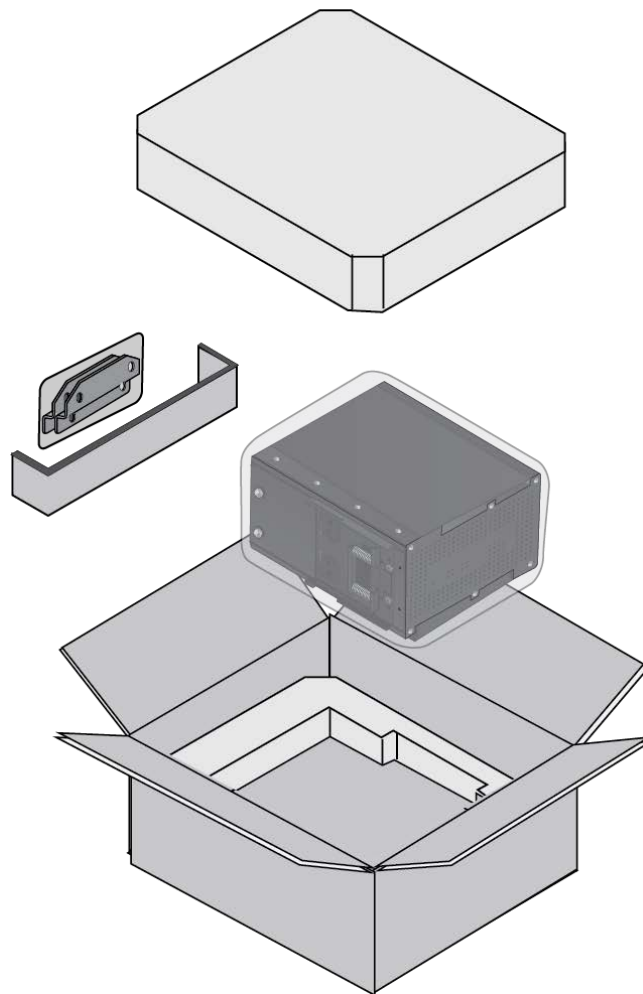

Figure 22. Removing the Switch from the Shipping Box
1. Remove all the components from the shipping box. Refer to Figure 22.